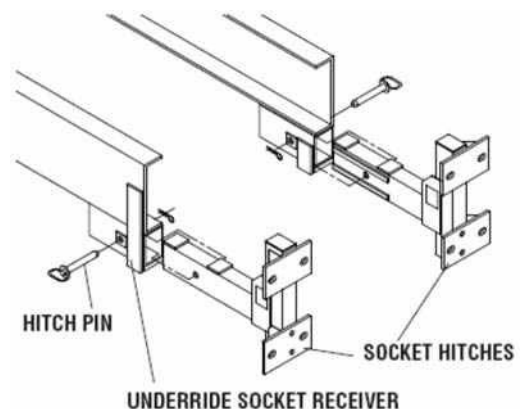

**Figure 19**
- B. Attach Jacks as shown in Figures 19 & 20